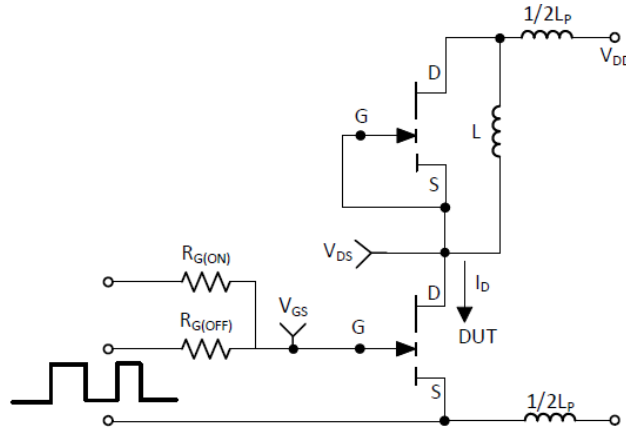

Figure 16: Switching Loss Test Circuit
(7) See Figure 16 for switching loss test circuit.